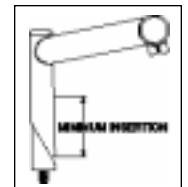

Fig. 1
4. On threaded steerers, insert stem to a minimum depth according to CPSC and JIS standards. The stem must be inserted to a minimum engaging length not less than 2.5 times the stem diameter from the lowest end of the stem, not the wedge (see Fig. 1).